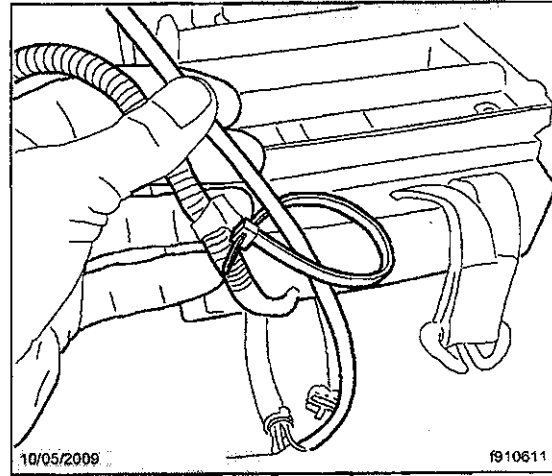

Fig. 7, Securing the Air Lines with a Tie Strap
20. Secure the seat air line with a tie strap to prevent entanglement in the seat suspension. See Fig. 7.